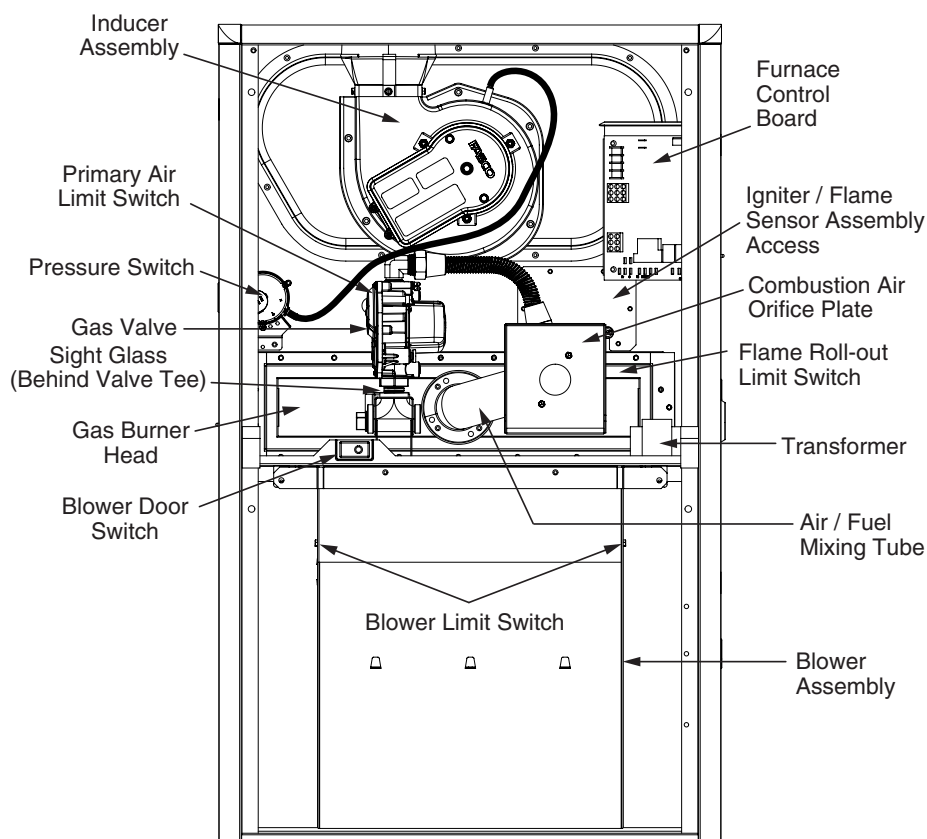

Figure 17. Component Locations
Cleaning of Flame Sensor - If the flame sensor is suspect for Loss of Flame fault code, the sensor can be cleaned to see if that remedies the issue. Follow steps 1 - 10. See Figure 17, (page 19) for component location.
- If the inducer blower is operating and items above have been verified, check the limit switch circuit and reset if necessary. See Figure 17, \(page 19\) for component location.
- If the furnace still doesn't operate, check the flame roll-out switch and reset if necessary. See Figure 17 for component location.
The descriptions below are various functional components that affect the operation and shutting down of this furnace. Some of these components and their locations are shown in Figure 17. If any component of the furnace must be replaced, use only factory authorized replacement parts specified in the Replacement Parts List.